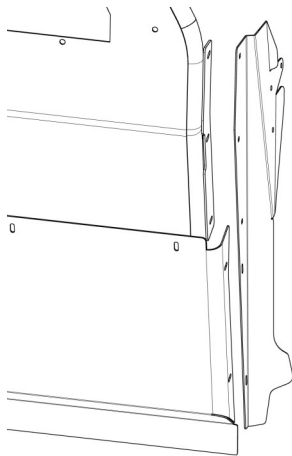
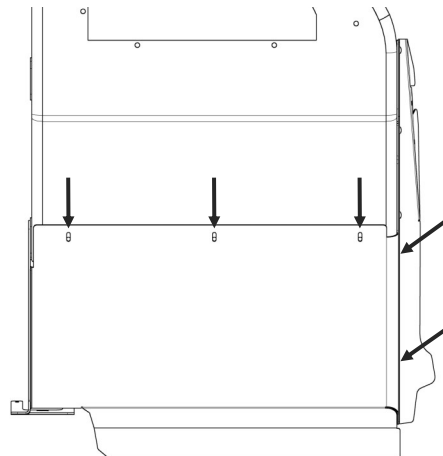

Figure 6a
Figure 6b
- A. Place the Pro-cell lower extension panel [3LEP472006] into the vehicle and slide the outside flange between the partition and the mounting plate (Fig 6a). Align the (3) holes at the top of the panel and the (2) holes along the outboard flange of the panel with their respective holes in the partition and the mounting plate (Fig 6b).